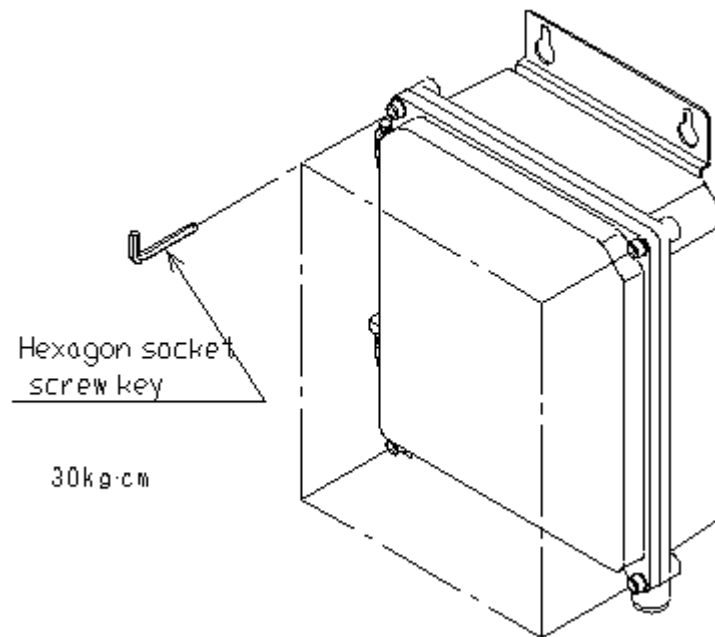

Figure 28: Tightening the Screws
2. Tighten the screws on the four corners. At first, balance the tightening of all the four screws. Then tighten them firmly as indicated in Figure 28.